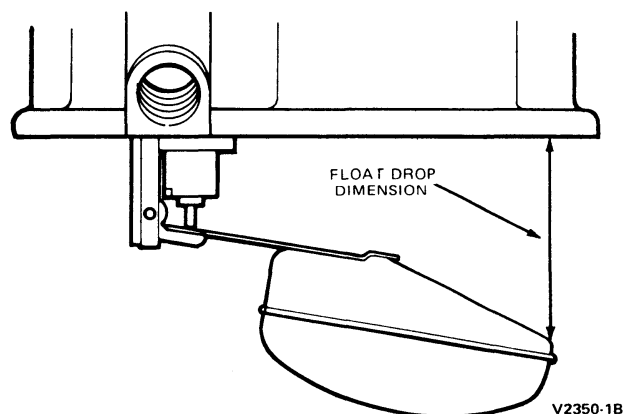

FIG. 8 Float Drop Adjustment
3. Hold the air horn upright and let the float hang free. Measure the maximum clearance from the toe end of the float to the casting surface (Fig. 8). Hold the air horn at eye level when gauging the dimension.